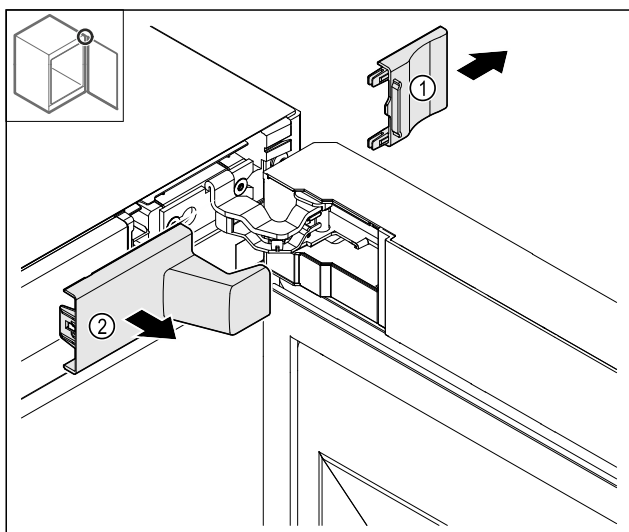

Fig. 13
- Remove the cover Fig. 13 (1) and then Fig. 13 (2).